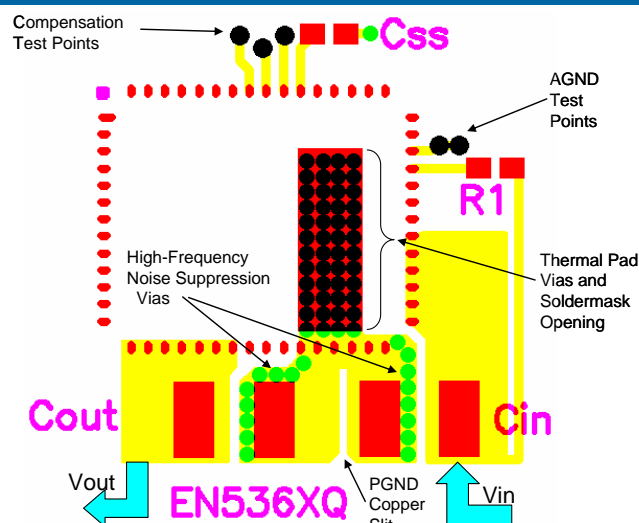

Figure 6. Use of thermal & noise suppression vias.
**Recommendation 3:** The large thermal pad underneath the component must be connected to the system ground plane through as many vias as possible. The drill diameter of the vias should be less than 0.33mm, and the vias must have at least 1 oz. copper plating on the inside wall, making the finished hole size around 0.26mm. This connection provides the path for heat dissipation from the converter. Please see figures 6, 7, and 8.
**Recommendation 4:** Multiple small vias should be used to connect ground terminal of the input capacitor and output capacitors to the system ground plane as shown in figure 6.
**Recommendation 5:** The system ground plane referred to in recommendations 3 and 4 should be the first layer immediately below the surface layer. This ground plane should be continuous and un-interrupted below the converter and the input/output capacitors shown in figure 6.